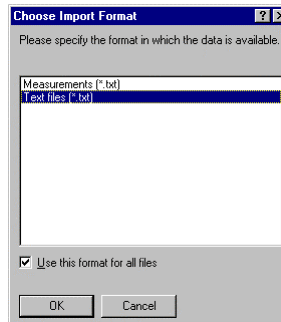

Figure 2.13: Selecting an Import scheme in the Choose Import Format dialog box. The import scheme which starts the Text Data Import Wizard is highlighted
*Note:* If you select *All Files (\*.\*)* in the list *Files of type:* of the *Import* dialog despite an import scheme being present, and then the file MEASUREMENT1.TXT, FlexPro automatically opens the dialog *Choose Import Format* using *Open*. Here all suitable import schemes for the appropriate filename extension - in our case \*.TXT, are on offer (Fig. 2.13). The same is true if different import schemes are present for several data formats with the same name extension, e.g. \*.TXT. Again FlexPro offers a list so that the user can select the desired import scheme using the specified name.